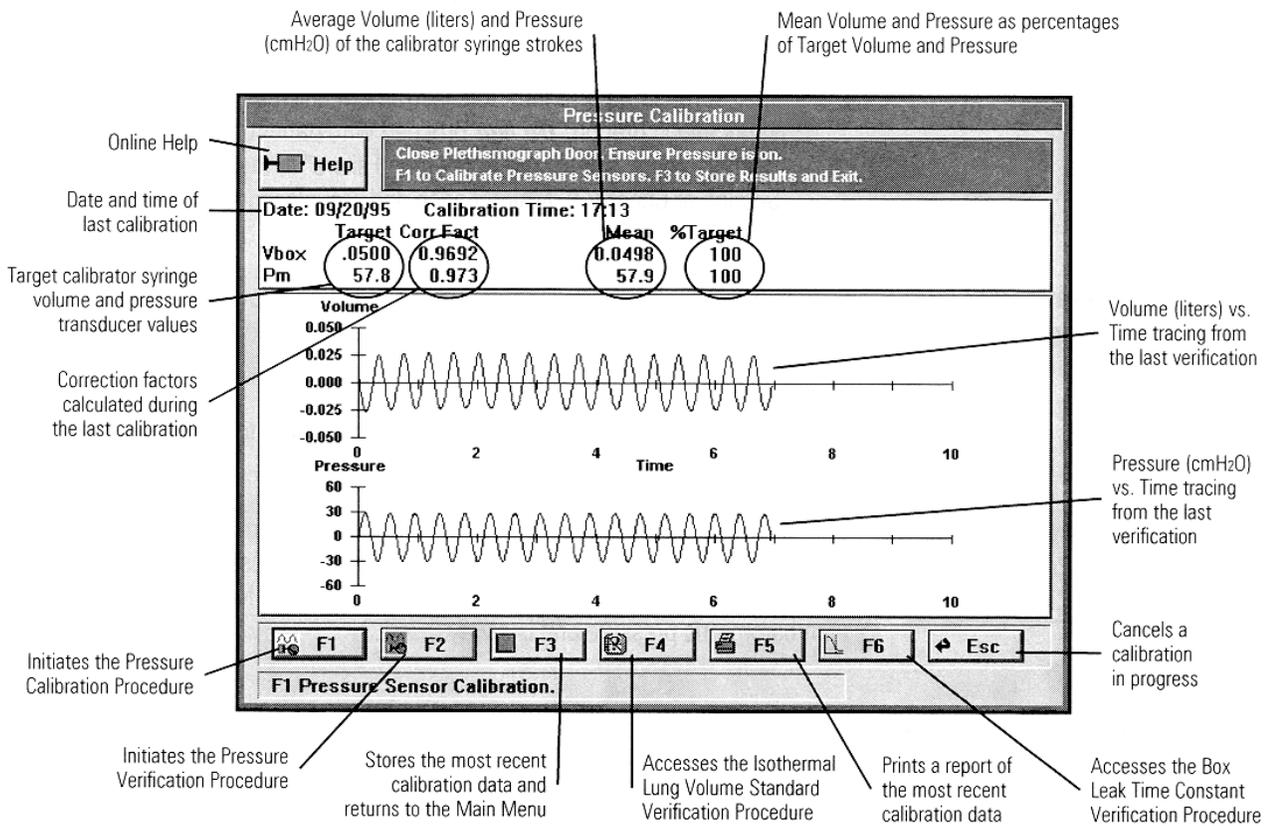

Figure 4-1 – Pressure Calibration Screen
1. Select **F4** on the **Flow Volume Calibration** screen to access the **Pressure Calibration** dialog box (Figure 4-1).
1. Select **F4** on the **Flow Volume Calibration** screen to access the **Pressure Calibration** screen (Figure 4-1).